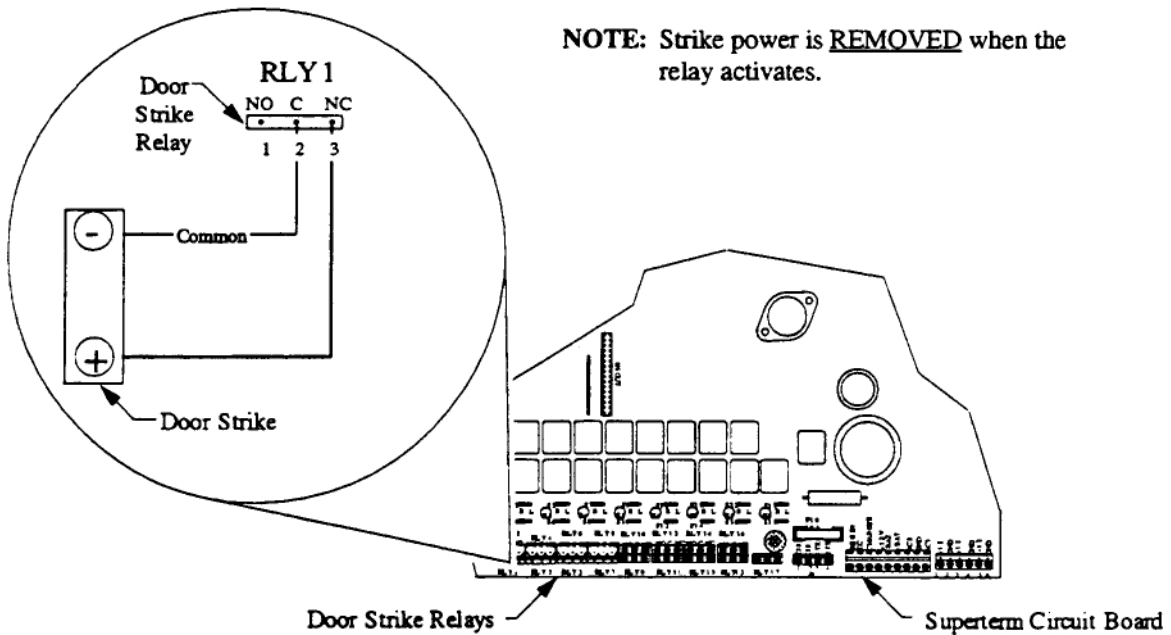

Figure 20 - LOCAL Power Door Strike Relay Connection - Normally Closed (NC) Condition
Table 19 lists the connections between the RLY#x terminal strip and the associated door strike for a Normally Closed (NC) condition (see Figure 20).